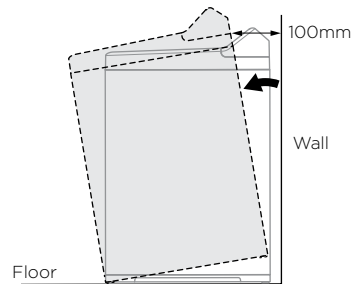
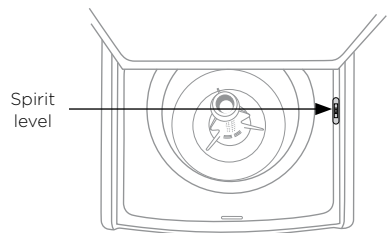

Fig.2 Tilt washer forward
Fig.3 Levelling from front to back
- ③ With the lid closed, tilt the washer forward away from the wall approximately 100mm (Fig.2), the self-adjusting feet will release. Gently lower the washer back down.
- ④ Open the lid, place the spirit level at either the right hand or left hand side of the top deck. Level the washer from front to back using the front feet only (Fig.3), winding both feet in or out equally. Tilt the washer forward again and lower back down (Fig.2).
- ⑤ Re-check the washer is level. Move the spirit level around to all positions once more, checking the washer is level in all areas. Repeat step 4 if necessary. Check the washer does not rock from side to side, front to back, or corner to corner.